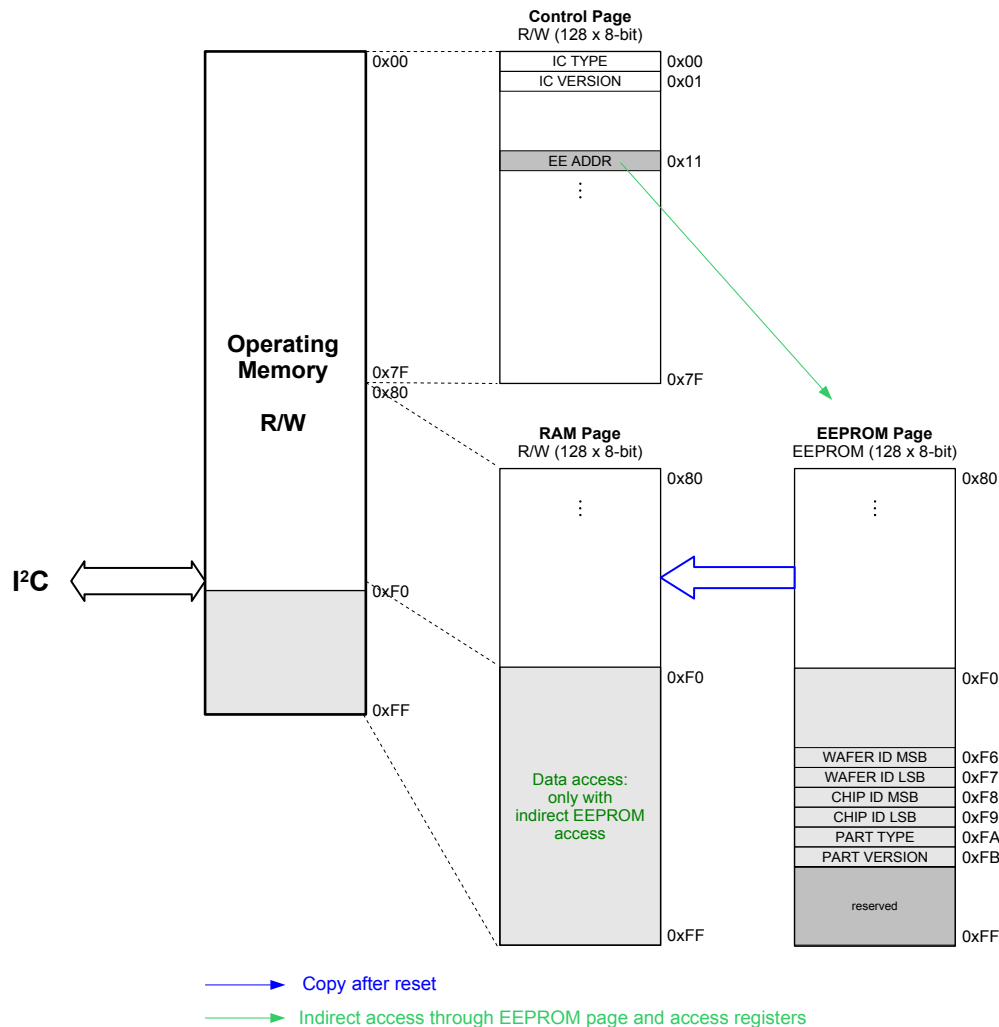

Figure 58: Memory map
The I²C-bus interface allows accessing the RW registers and the programming of the EEPROM registers which store the configuration parameters. It is the only interface through which the configuration registers can be accessed (Figure 58 and Table 35) by the application. It works as a slave device according to the I²C specification (refer to chapter 16.2) with a transfer rate of up to 400 kbit/s in Fast Mode (FM) or 1Mbit/s in Fast Mode plus (FM+). The I²C master such as an external CPU can set the transfer speed simply by driving the SCL input at that frequency (up to 1MHz), therefore there is no prior register configuration or setting necessary.